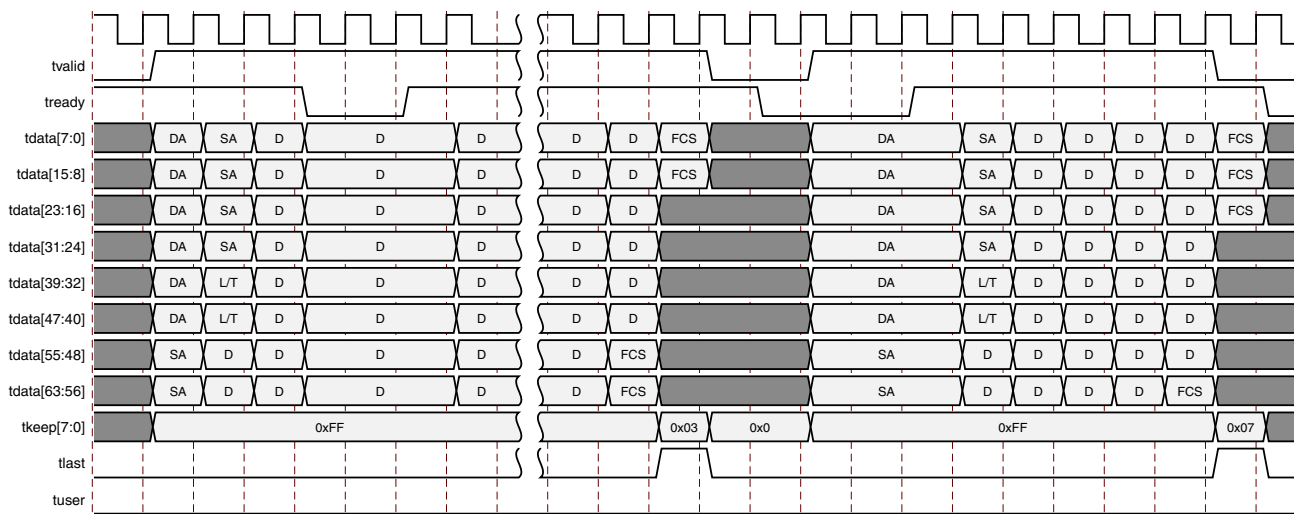

Figure 2-13: Normal Frame Transfer – 64 Bits
The timing of a normal frame transfer is shown in Figure 2-13. When the client wants to transmit a frame, it asserts the `tx_axis_tvalid` and places the data and control in `tx_axis_tdata` and `tx_axis_tkeep` in the same clock cycle. When this data is accepted by the core, indicated by `tx_axis_tready` being asserted, the client must provide the next cycle of data. If `tx_axis_tready` is not asserted by the core, the client must hold the current valid data value until it is. The end of the packet is indicated to the core by `tx_axis_tlast` asserted for 1 cycle. The bits of `tx_axis_tkeep` are set appropriately to indicate the number of valid bytes in the final data transfer. `tx_axis_tuser` is also asserted to indicate a bad packet. After `tx_axis_tlast` is deasserted, any data and control is deemed invalid until `tx_axis_tvalid` is next asserted.
- An explicit error in which a frame transfer is aborted by deasserting `tx_axis_tuser` High while `tx_axis_tlast` is High. [see Figure 2-13]